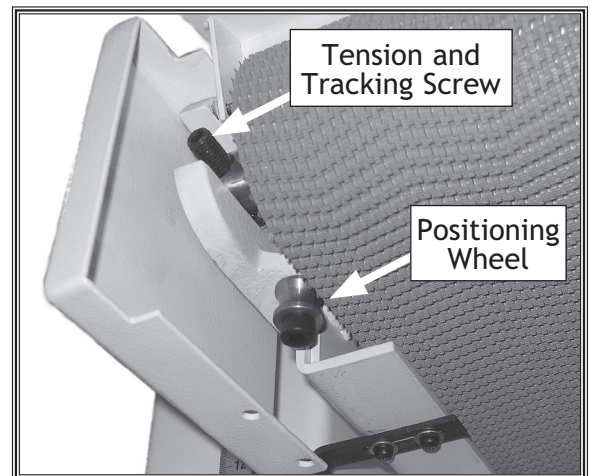

Figure 32. Conveyor belt tension and tracking adjustment locations.
The conveyor belt tension and tracking has been set at the factory. However, adjust the conveyor belt tension and tracking if you notice that your conveyor belt is slipping or is tracking off center, or loading up against the positioning wheels (Figure 32) under the conveyor table.
4. Turn the conveyor belt tension and tracking screws again as required to position the conveyor belt roller evenly on each side. See Figure 32.